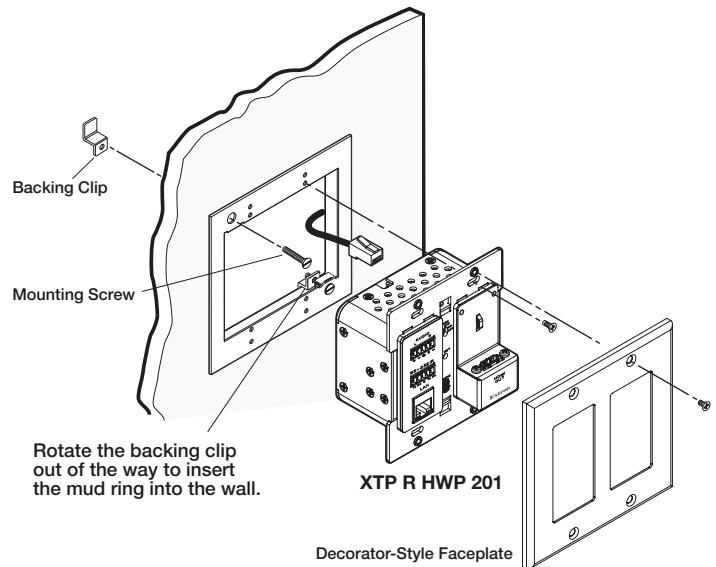

Figure 3. Mud Ring Installation
- **Provided mud ring** — Attach the mounting screws to the mud ring and loosely attach backing clips to the ends of the screws (see figure 3). Fit the mud ring in the opening and then rotate the backing clips to fit snugly against the back of the wall.